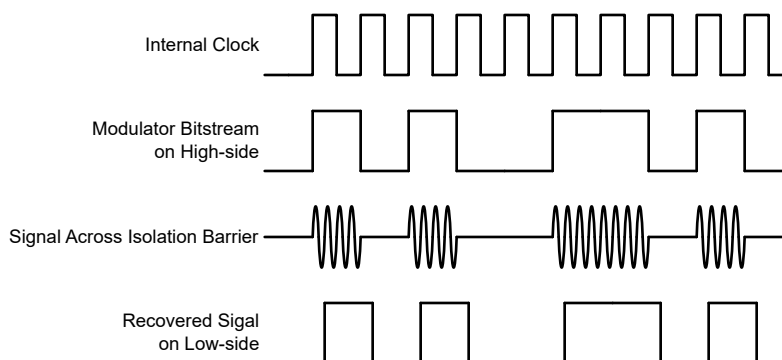

Figure 7-3. OOK-Based Modulation Scheme
As shown in Figure 7-3, the AMC0386 uses an on-off keying (OOK) modulation scheme to transmit the modulator output bitstream across the SiO_2 -based isolation barrier. The transmit driver (TX) is illustrated in the Functional Block Diagram. TX transmits an internally generated, high-frequency carrier across the isolation barrier to represent a digital one. However, TX does not send a signal to represent a digital zero. The nominal frequency of the carrier used inside the AMC0386 is 480MHz.